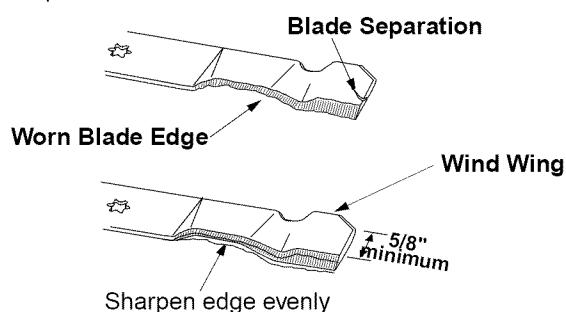

Figure 25
- To properly sharpen the cutting blades, remove equal amounts of metal from both ends of the blades along the cutting edges, parallel to the trailing edge, at a 25° to 30° angle. See Figure 25.
**IMPORTANT:** If the cutting edge of the blade has already been sharpened to within 5/8" of the wind wing radius, or if any metal separation is present, replace the blades. See Figure 25.